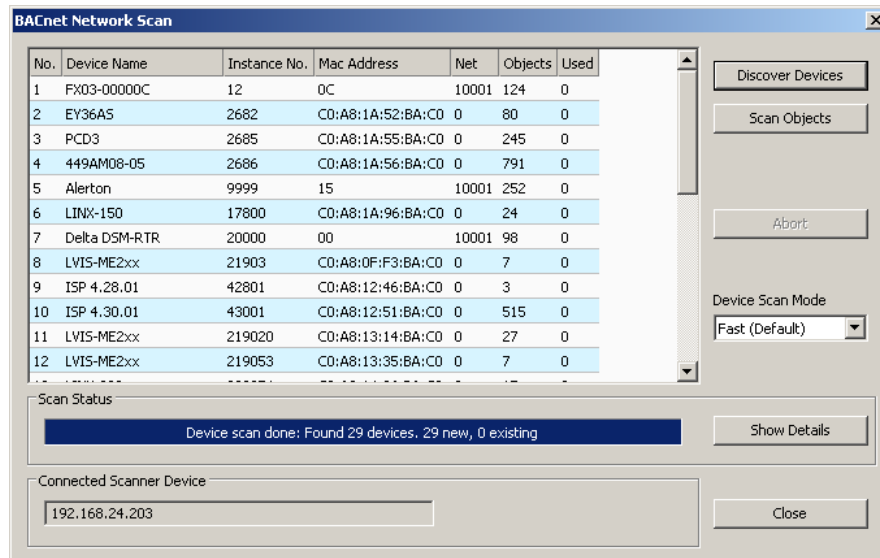

Figure 82: BACnet network scan dialog.
- Right-click on that folder and select **Scan BACnet Network...**. This opens the BACnet Network Scan dialog as shown in Figure 82.